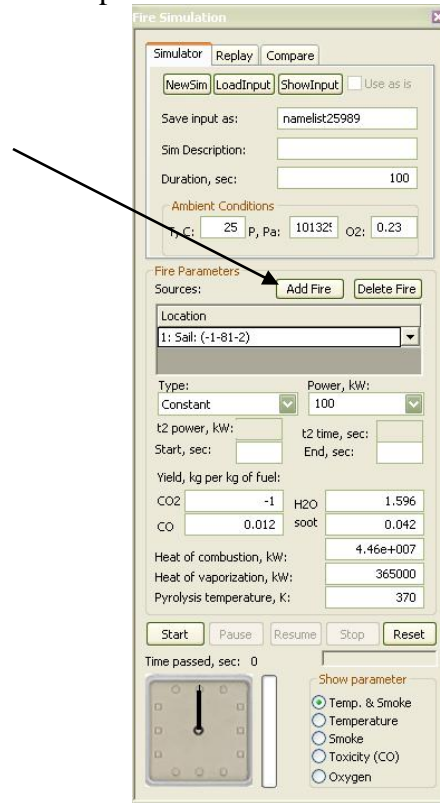

Figure 3-3 Fire Simulation Popup
Step 3: In the Fire Simulation popup (shown in Figure 3-3), by default one fire source has already been added and it defaults to the first compartment. Additional fire sources can be added with the *Add Fire* button, but for this test only use the one specified in the next step.